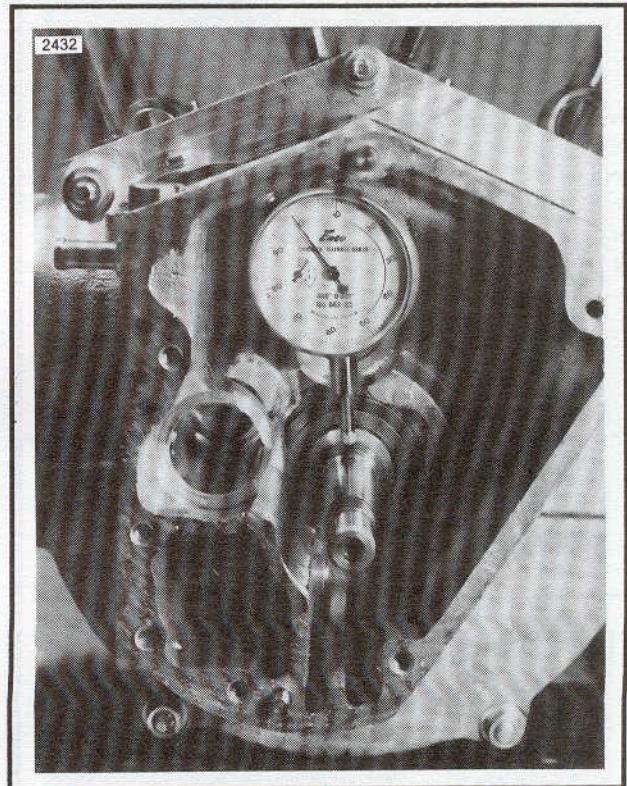

Figure 3-45. Check Pinion Shaft Bearing
2. If removed, inspect oil screen (4) carefully to be sure mesh is open. Fill screen with oil and watch for complete and even flow of oil through screen. Replace plugged or partially plugged screen.
4. Measure the small end of the cam shaft at the bearing surface and again near the cam lobes. If the shaft is worn more than 0.003 in. or is damaged in any way, replace both the cam and the needle bearing (33). See steps 8 and 9.
6. Replace cam gear oil seal (32).
7. See Figure 3-45. Clean the pinion shaft bearing with contact cleaner and check the bearing clearance with a dial indicator. Mount the indicator with the probe perpendicular to the shaft and as close to the bearing as possible. If the clearance exceeds 0.002 in., the bearing must be refitted. See Truing and Sizing, Pinion Shaft Bearing in the CRANKCASE subject.